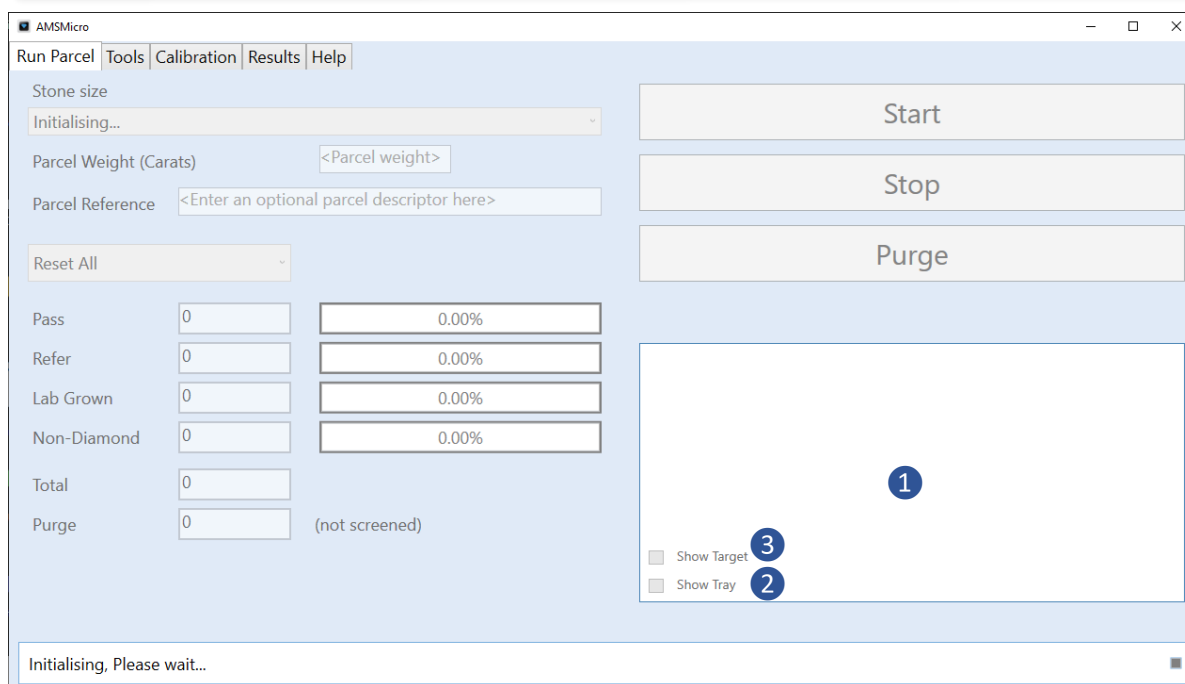

Figure 38 – Feeder Tray and Placement Display
The display, Figure 38- ①, to the bottom right of the Run Parcel tab allows the contents of the feeder tray to be inspected. When a screening run is started this will be shown by default. See section 6.2.2.
Unchecking the 'Show Tray' option, Figure 38 - ②, will allow the stone placement and table down performance to be assessed⁷. Optionally, a placement target may be displayed by checking the 'Show Target' checkbox Figure 38 - ③. This circular target indicates the target area for stone placement; stones being placed outside this area are unlikely to be measured correctly and may be dispensed to the purge bin.